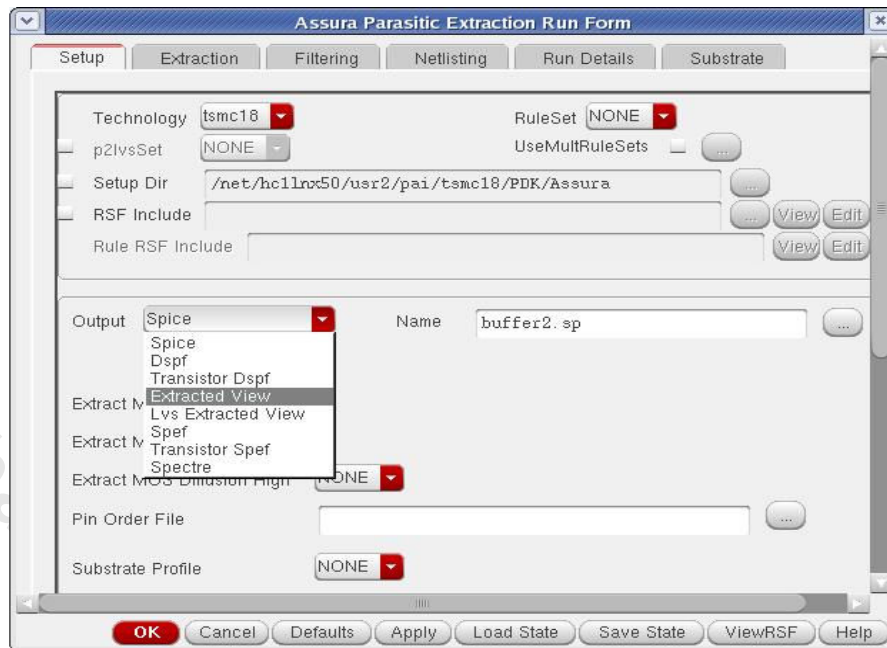

FIG. 25 Setup folder of Assura RCX window
2. Select “Output” to “Extracted View” in “setup” folder of Assura RCX window to output extract result to “av_extracted” view (Fig 25).